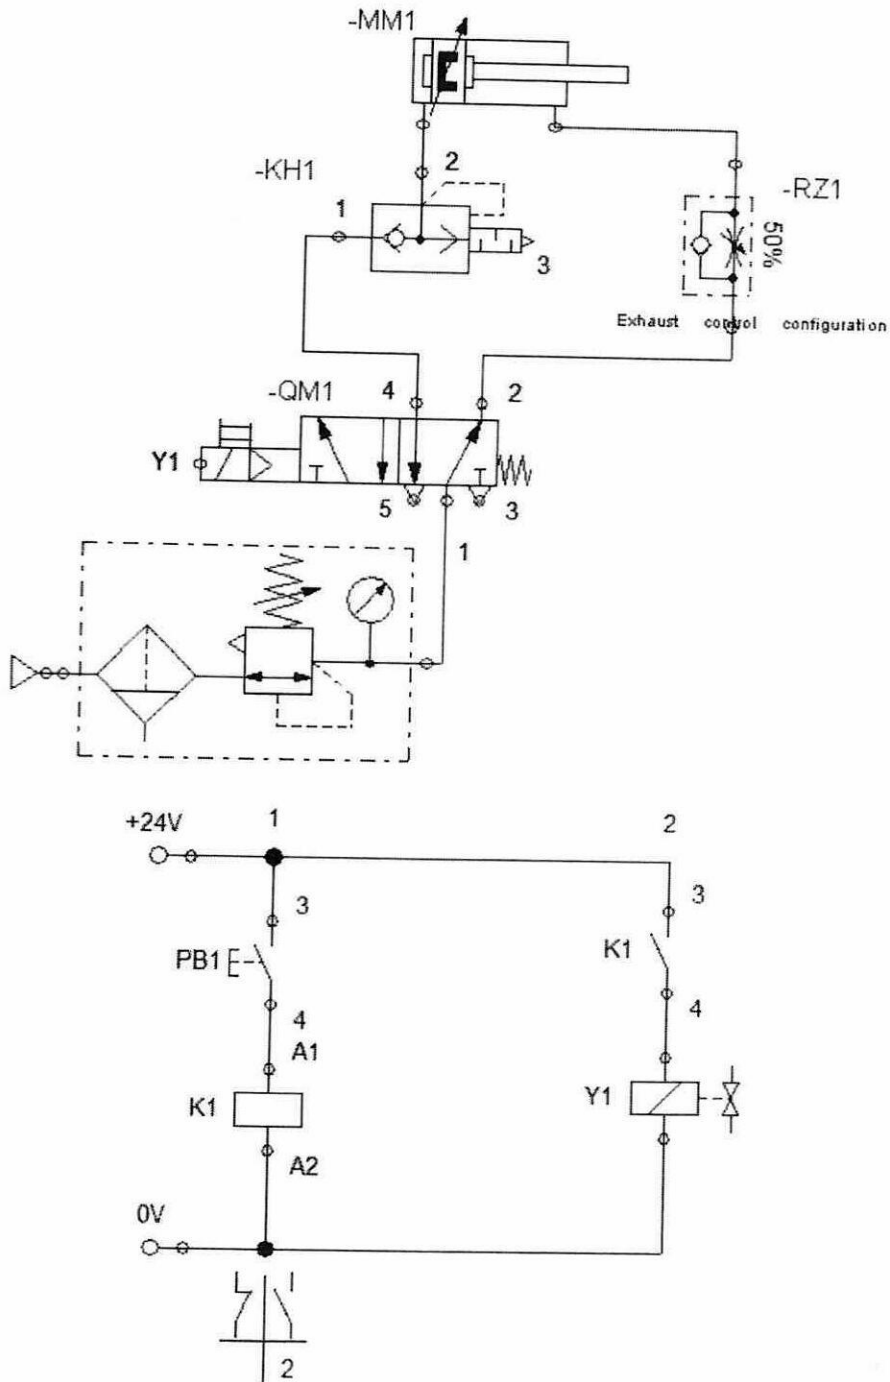

Figure Q1(e)
- Q1.** (a) List **three (3)** characteristic of directional control valves. (3 marks)
- (d) Compare **two (2)** differences between single acting cylinder and double acting cylinder. (8 marks)
- (e) Refer to the **Figure Q1(e)**, briefly explain the operation of the circuit diagram. (10 marks)
- (b) List **three (3)** example of input devices. (3 marks)